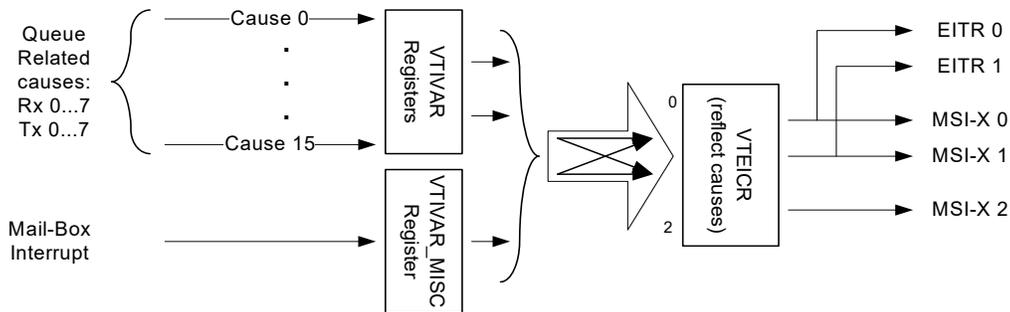
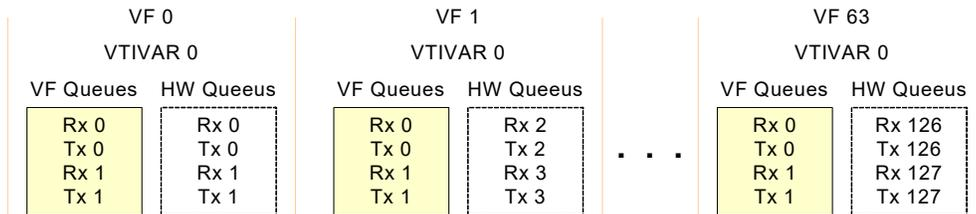
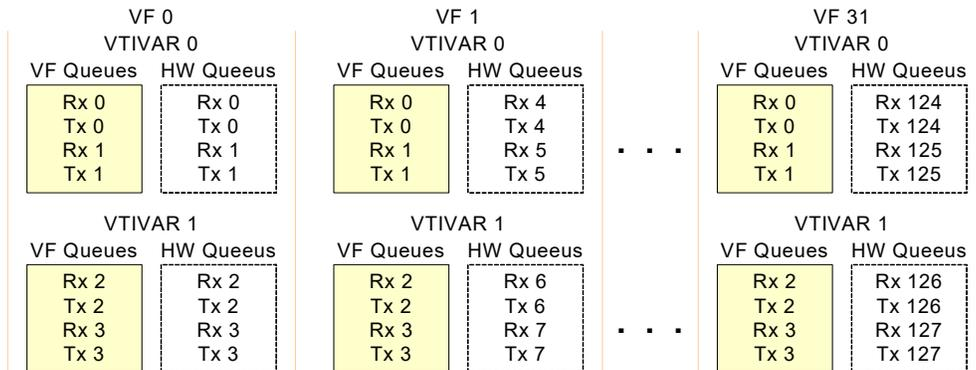

Figure 7-26. VF Interrupt Cause Mapping (MSI-X, IOV)
Figure 7-27. VF Mapping of Rx and Tx Queue to VFIVAR in 64 VF's Mode
Figure 7-28. VF Mapping of Rx and Tx Queue to VFIVAR in 32 VF's Mode
Each of the VFs in IOV mode is allocated separate IVAR(s) called VFIVAR registers, and a separate IVAR\_MISC called VFIVAR\_MISC register. The VFIVAR\_MISC maps the mailbox interrupt of the VF to its VFEICR and the MSI-X vector. The VFIVAR registers map the Tx and Rx interrupts of the VF to its VFEICR and the MSI-X vector. The mapping is similar to the mapping in the PF as shown in Figure 7-26 with the following comments:
- Association between the Tx and Rx queues and the VFIVAR registers is shown in the Figure 7-26, Figure 7-27 and Figure 7-28 for IOV-64 (64 VF's), IOV-32 and IOV-16. The colored boxes in the figures show the mapping between VF Rx and Tx queues to VFIVAR registers while the dashed boxes show the physical IVAR registers and the associated physical Rx and Tx queues.